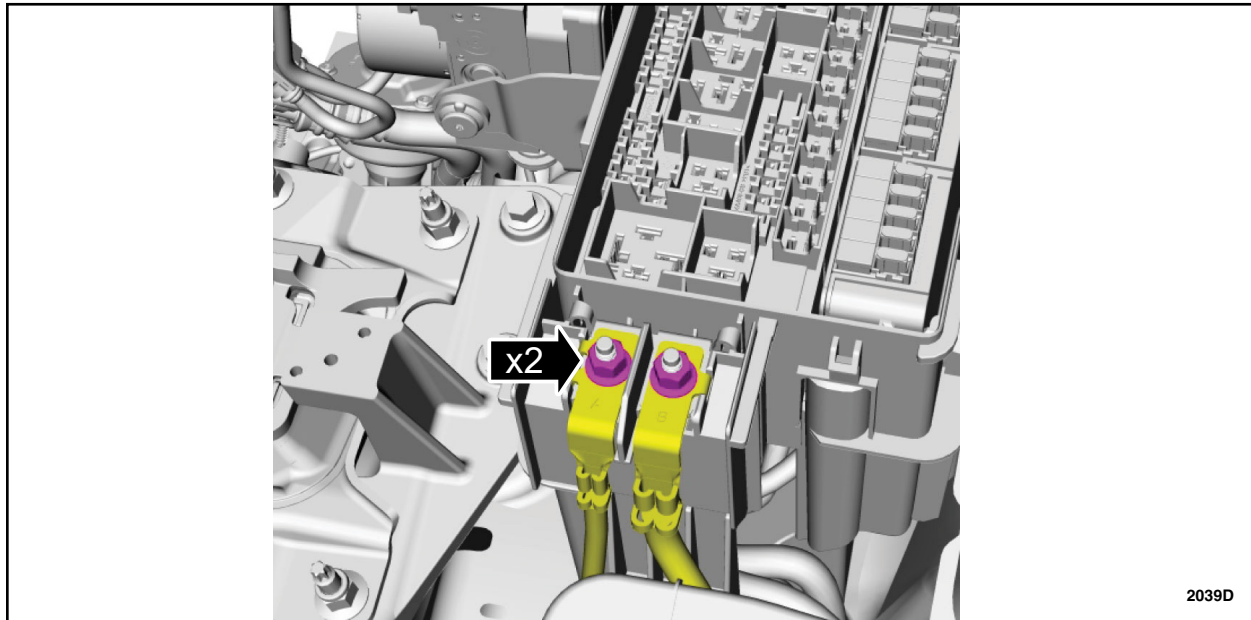

FIGURE 17
15. Position back both of the BJB's power feed cables and install the nuts. See Figure 17.